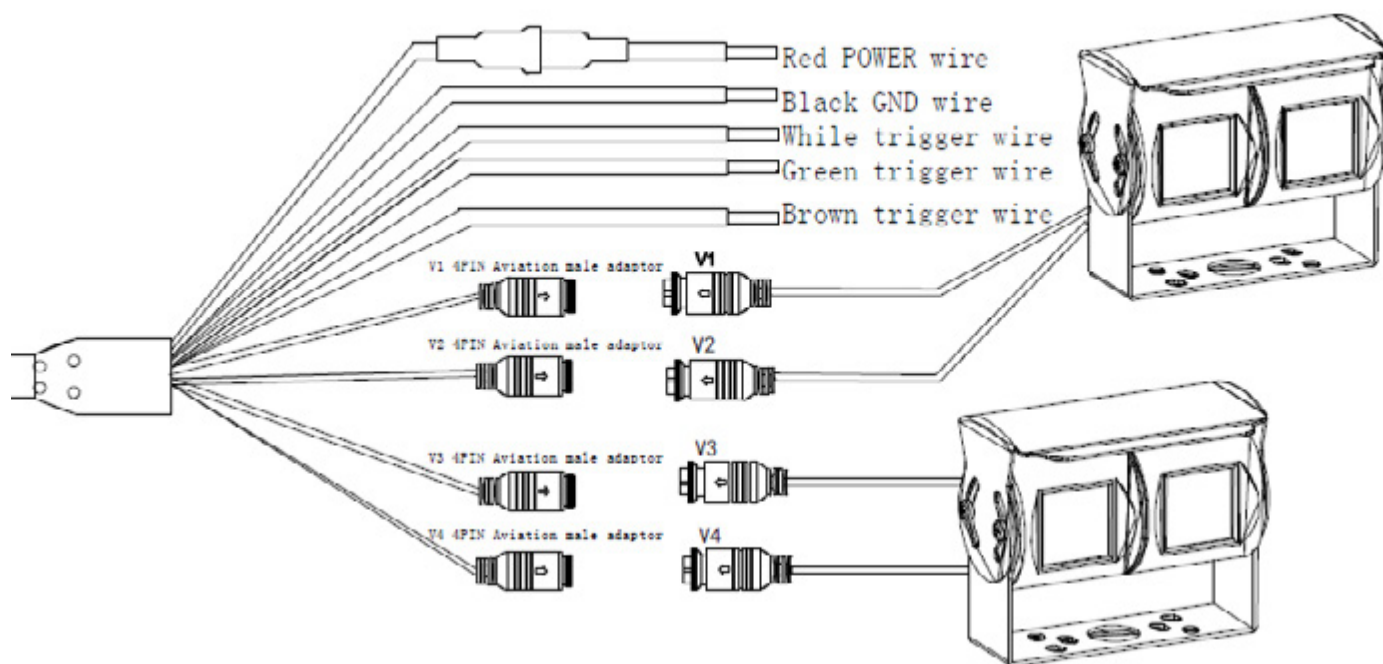

Figure 3
- 3.The viewing configuration in Figure 3. will display when the white trigger wire receives power. When the trigger wire loses power, the display will return to the previous viewing configuration.